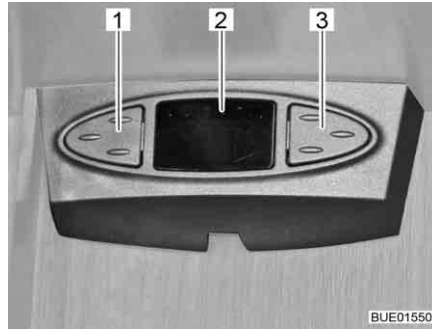

Fig. 39 Satellite mouse
Depending on the model, the satellite receiver is equipped with a satellite mouse. The satellite mouse's display (Fig. 39,2) shows the current channel. The two buttons can be used to operate the basic functions of the satellite unit (changing channel, switching on/off).
- Choosing the previous channel from the list: Press left button (Fig. 39,1).
- Choosing the next channel from the list: Press right button (Fig. 39,3).
- Switching between radio and TV: Press the buttons (Fig. 39,1 and Fig. 39,3) briefly at the same time.
- Switching the receiver on/off: Press and hold the buttons (Fig. 39,1 and Fig. 39,3) at the same time.